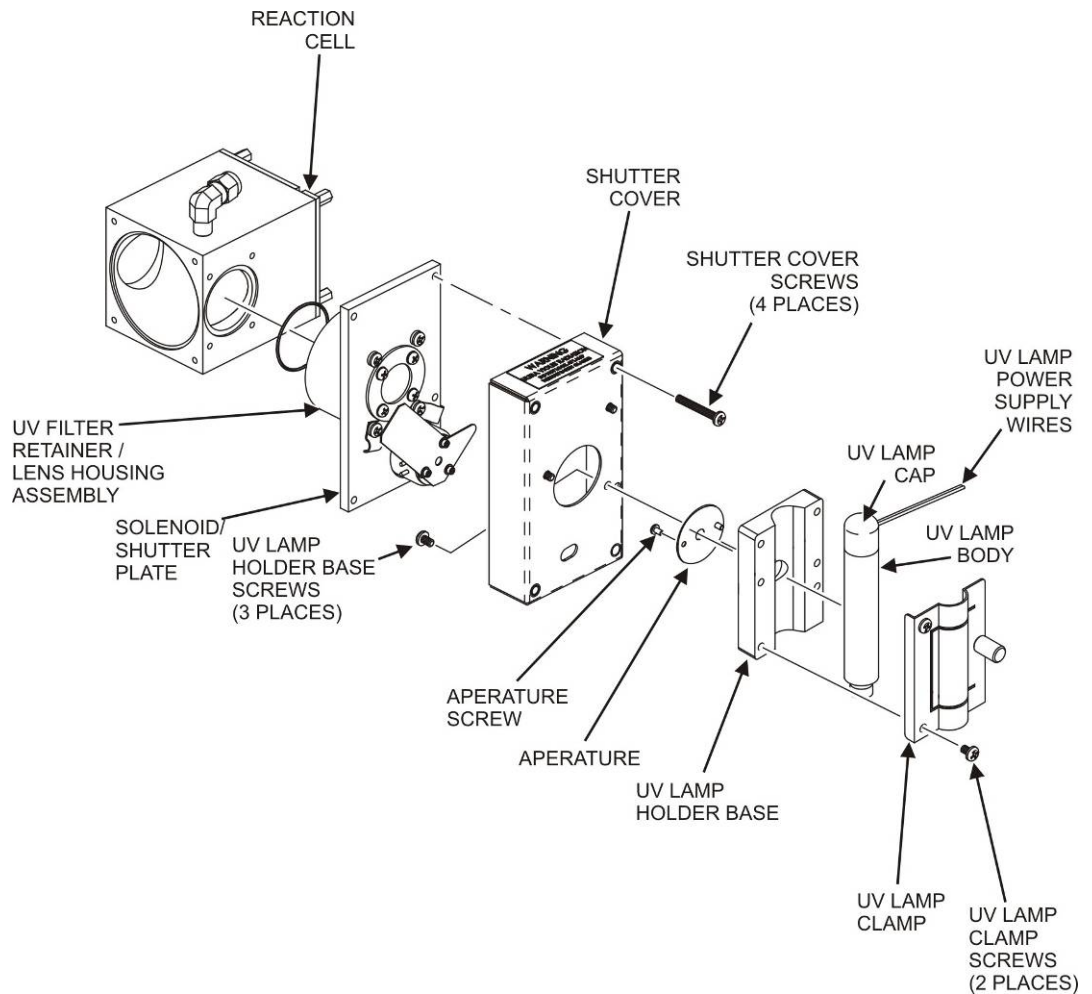
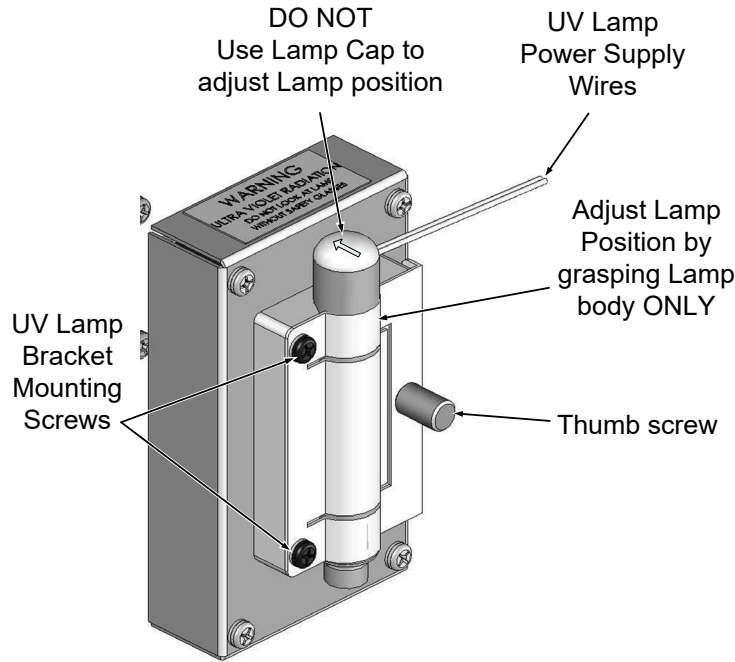

Figure 11-13: Shutter Assembly
Figure 11-14. UV Lamp Adjustment
4. Remove 4 screws from the shutter cover (refer to Figure 11-13) and remove the cover.
2. Slightly loosen the large brass thumbscrew located on the shutter housing (refer to Figure 11-14) so that the lamp can be moved.
DO NOT grasp the UV lamp by its cap when changing its position - always grasp the main body of the lamp (refer to Figure 11-13). Inattention to this detail could twist and potentially disconnect the lamp's power supply wires.
4. Loosen, but do not remove the two UV lamp bracket screws and the large brass thumbscrew located (refer to Figure 11-13 and Figure 11-14) on the shutter housing so that the lamp can be moved.
DO NOT grasp the UV lamp by its cap when changing its position - always grasp the main body of the lamp (refer to Figure 11-13) Inattention to this detail could twist and potentially disconnect the lamp's power supply wires.